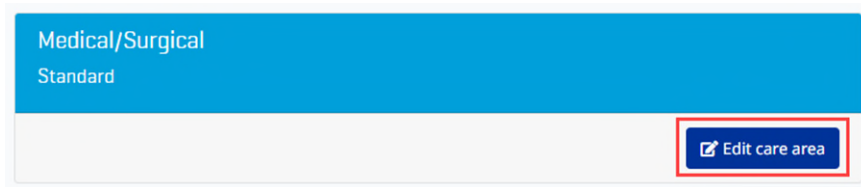

Figure 2
- b) Select **Edit care area** button (See Figure 2)